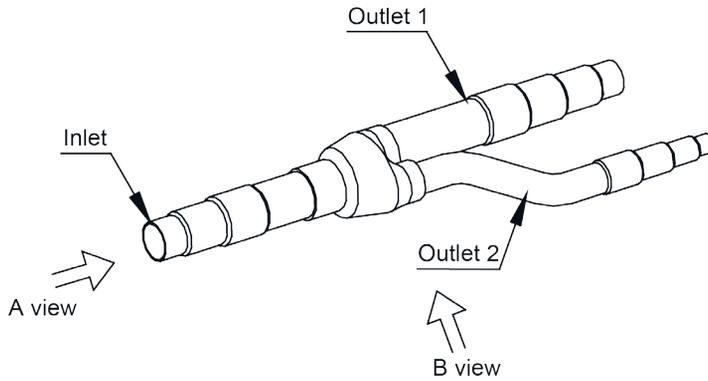

Fig. 4.4.2
- (1) Y-type manifold, See the Fig. 4.4.2. T-type manifold, See the Fig.4.4.3